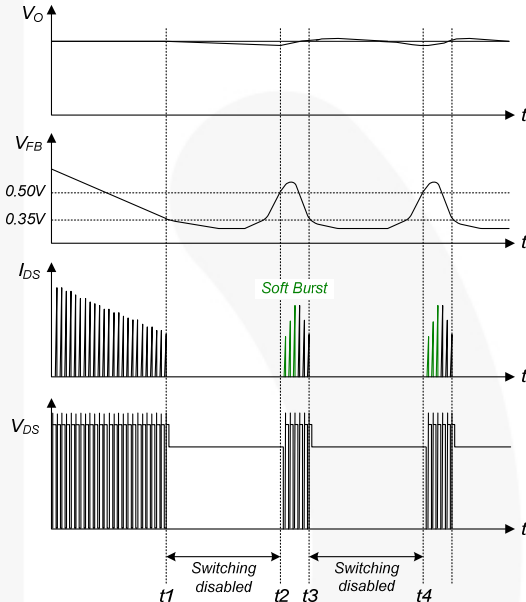

Figure 23. Burst-Mode Operation
5. Soft Burst-Mode Operation: To minimize power dissipation in Standby Mode, the FSL156MRBN enters Burst-Mode operation. As the load decreases, the feedback voltage decreases. As shown in Figure 23, the device automatically enters Burst Mode when the feedback voltage drops below V_{BURL} (350mV). At this point, switching stops and the output voltages start to drop at a rate dependent on standby current load. This causes the feedback voltage to rise. Once it passes V_{BURH} (500mV), switching resumes. The feedback voltage then falls and the process repeats. Burst Mode alternately enables and disables SenseFET switching, reducing switching loss in Standby Mode.